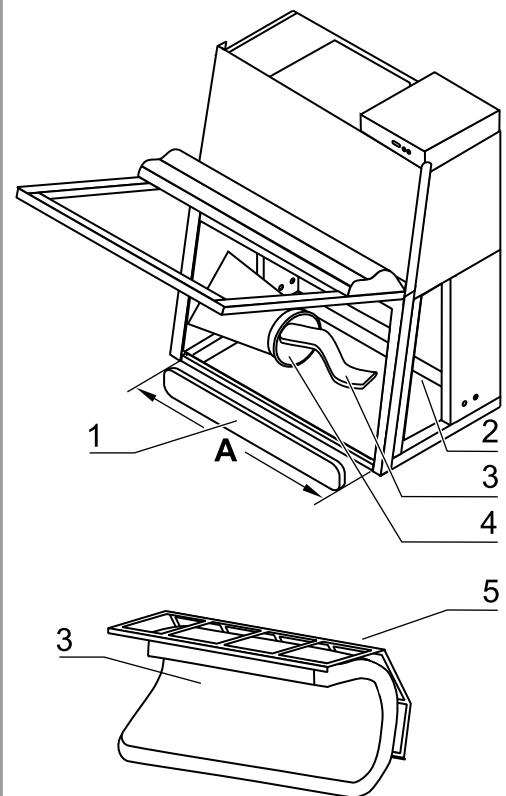

Fig.20,
2. **Fig. 20:** Have a suited disposal container [4] for the contaminated coarse filter ready.